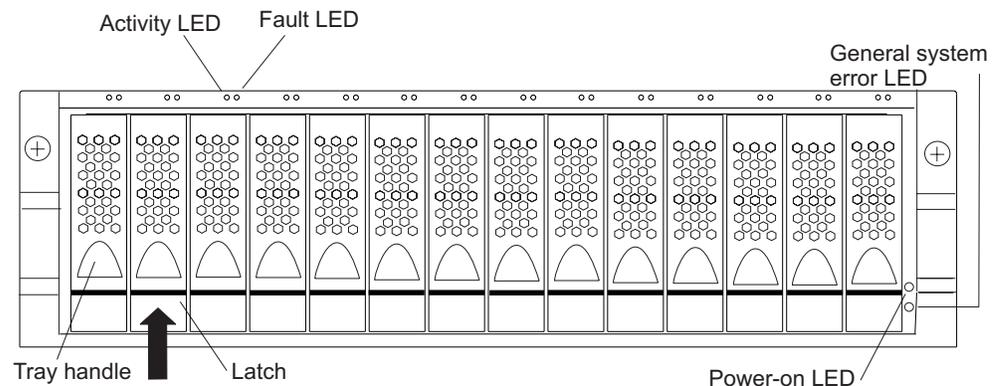

Figure 43. Hot-swap hard disk drive LEDs
2. Check for Fault LEDs shown in Figure 43. If any amber LEDs are lit, see “Solving problems” on page 99.
- a. Release the latch on the drive CRU by pinching together the blue line on the tray latch and the finger hole on the tray handle, as shown by the arrow in Figure 43.